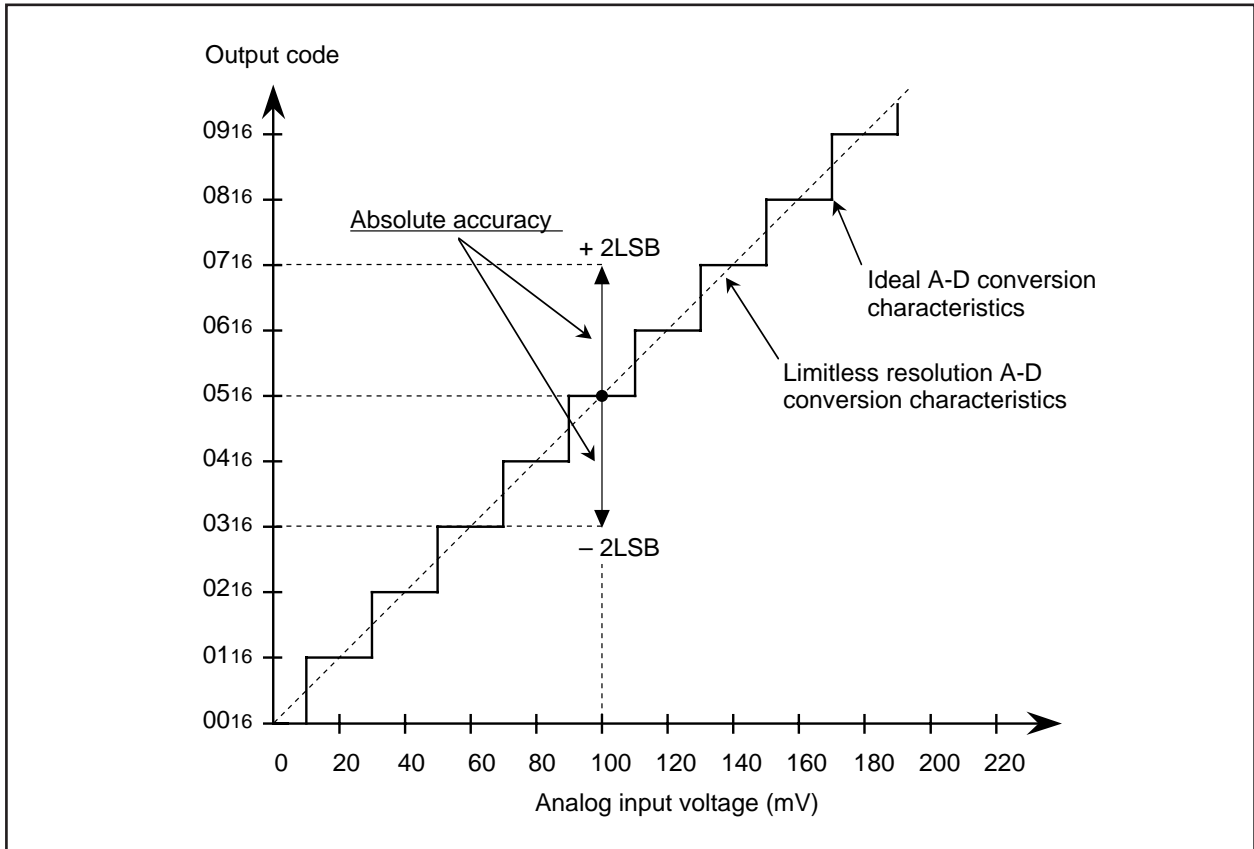

Fig. 12.8.4 Definition of A-D Conversion Accuracy
The definition of A-D conversion accuracy is described below (refer to Figure 12.8.4).
**Note:** The analog input voltage "Vn" at which A-D conversion output data changes from "n" to "n + 1" (n ; 0 to 254) is as follows (refer to Figure 12.8.4) :